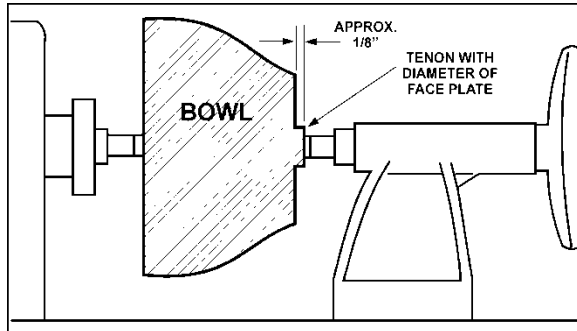

Figure 10-10
- Turn a short tenon (about 1/8" long) the size of the hole in the faceplate. See Figure 10-10. This will allow centering the workpiece when the faceplate is attached.